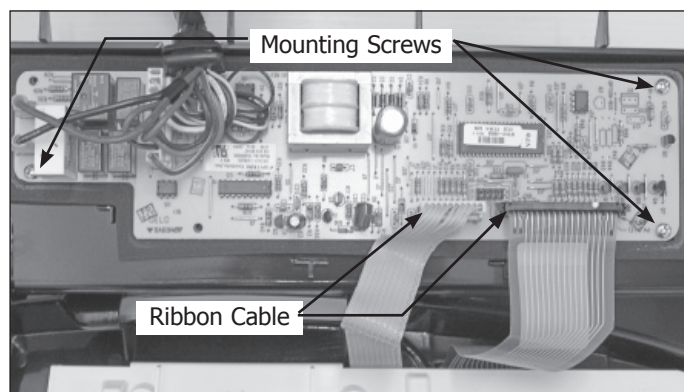

Figure 4-6.
5. Disconnect all wiring harness connections from control board. Remove ribbon cable connections from control board. (See Figure 4-6)
6. Extract the three Phillips head screws securing the control board to the console. Remove board from console. (See Figure 4-6)
5. Disconnect ribbon cable from electronic control board. (See Figure 4-6)